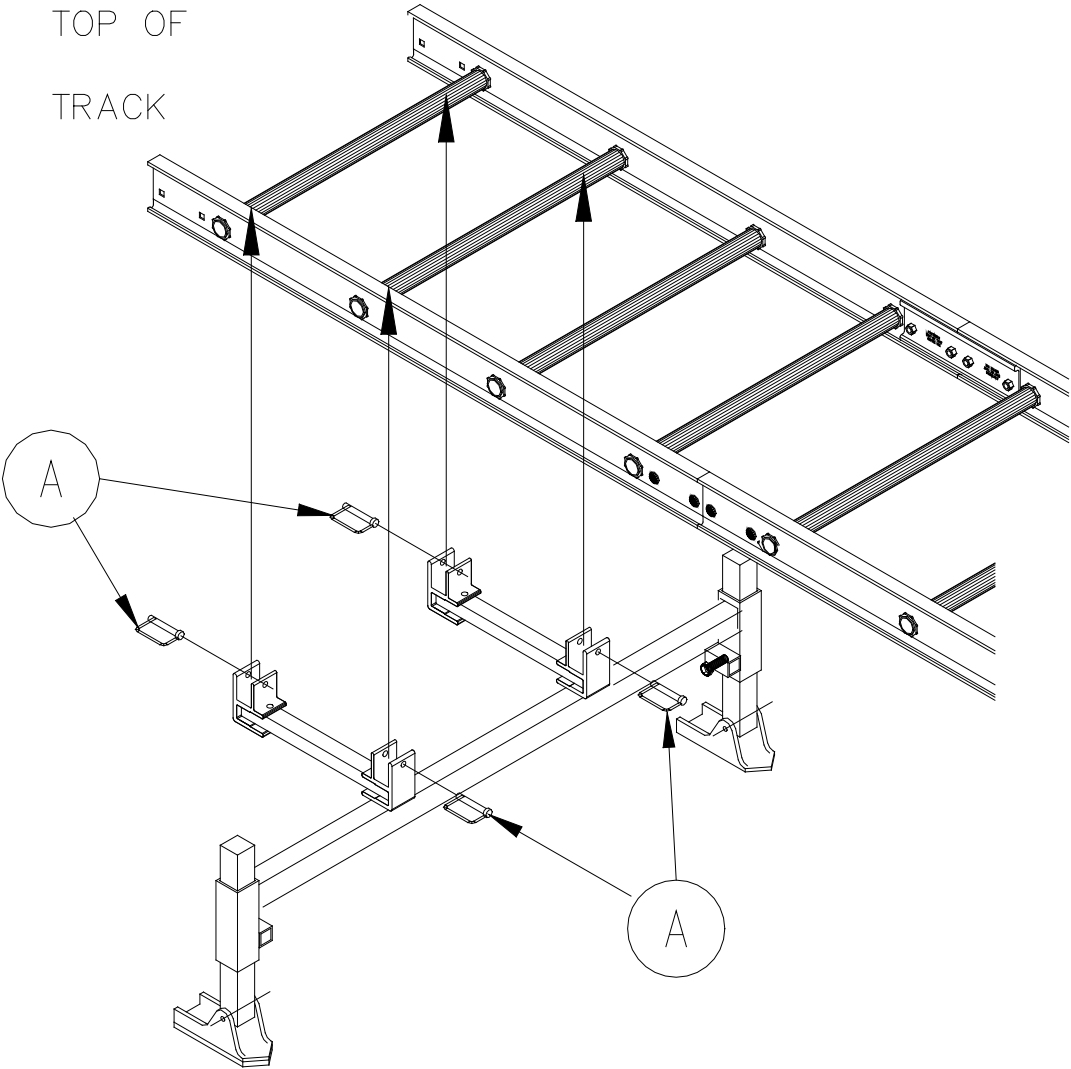

Figure 3-2.
- 1. Refer to Figure 3-2 and parts list.